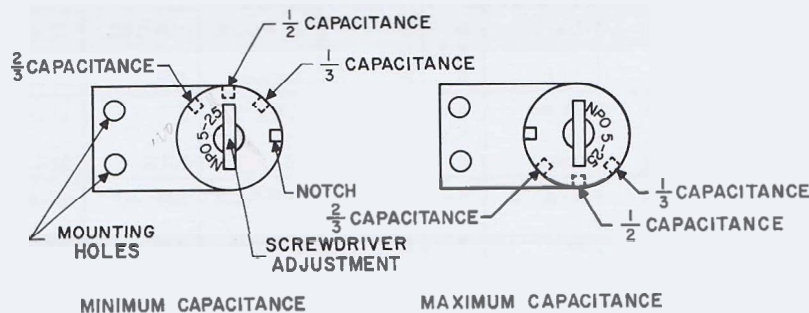

Figure 4-2. Ceramic Trimmer Capacitors
a. Adjust all ceramic trimmer capacitors including the three below the chassis to 1/2-maximum capacitance, except as follows: DO NOT change the setting of CARRIER BAL capacitor, and set 3.8-mc trimmers C70, C37, C109, and C130 to 2/3-maximum capacitance. Maximum capacitance of these trimmers occurs when the large, square notch is aligned toward a point midway between the two mounting screws. One-half capacitance occurs with the notch pointed directly at the front or rear of the unit. Two-thirds capacitance occurs with the notch turned off the half-point toward the mounting screws. Refer to figure 4-2.